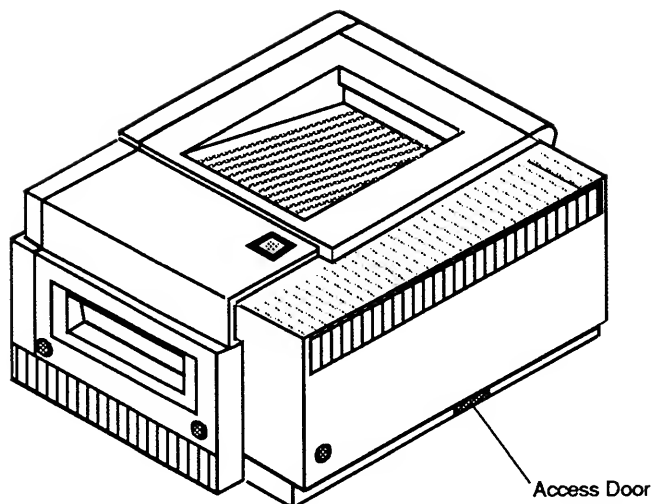

Figure 6-1 Printer Access Door
6. Open the access door (**Figure 6-1**) on the lower portion of the rear of the printer.